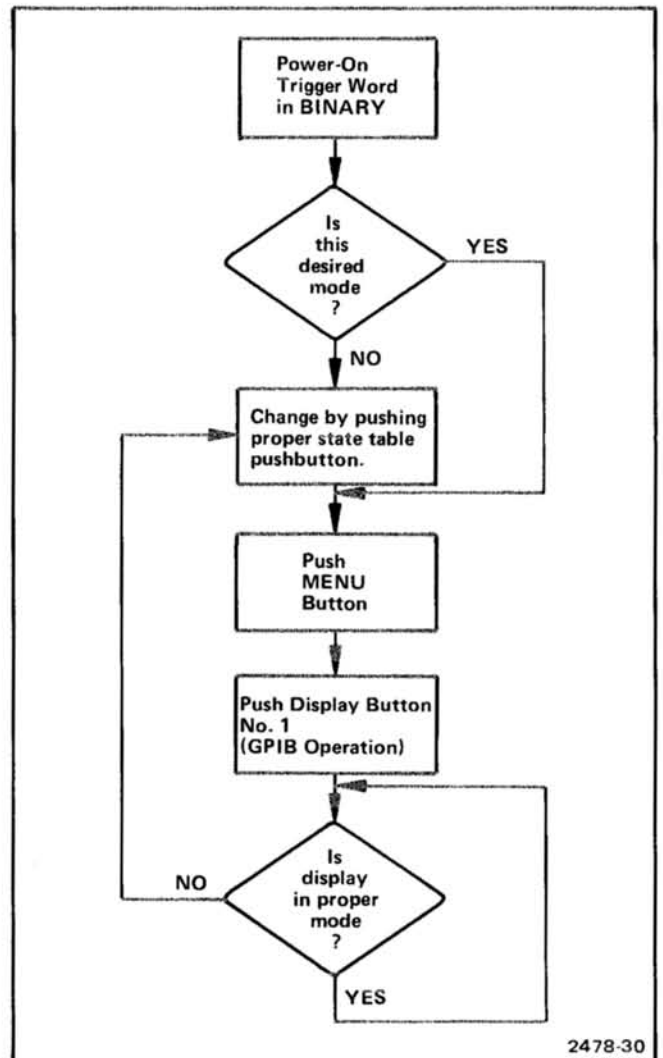

Figure 3-6. Changing trigger word readout in GPIB operation.
- b. Trigger word is displayed in its hex, octal, or binary equivalent numbers, depending on which state table push button (HEX, OCTAL, or BINARY) was depressed prior to selecting the MENU push button. See Figure 3-6.